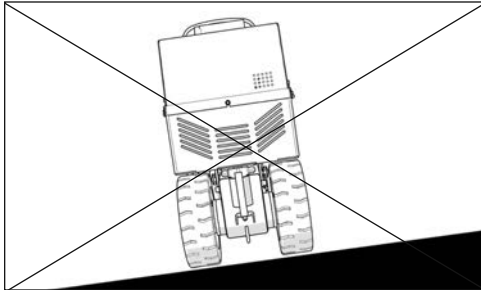

FIG. 2
**WARNING:** MACHINE HAS A SWIVEL FRONT CASTER. NEVER SIDE HILL (FIGURE 2) THE MACHINE ON A INCLINE WITHOUT POWER, THE FRONT CASTER WILL CAUSE MACHINE TO SWING TO THE LOWEST POINT. IF IT IS NECESSARY TO RUN MACHINE ON AN INCLINE, RUN MACHINE ON CUTTING HEAD. PLACE AT LEAST AN 8" CUTTING HEAD IN MACHINE. TO KEEP FROM DAMAGING FLOOR, CLAMP A PIECE OF CARPET INTO CUTTING HEAD. THIS WILL GIVE POSITIVE CONTACT WITH THE FLOOR WHEN POWER IS DISENGAGED FROM THE WHEELS.